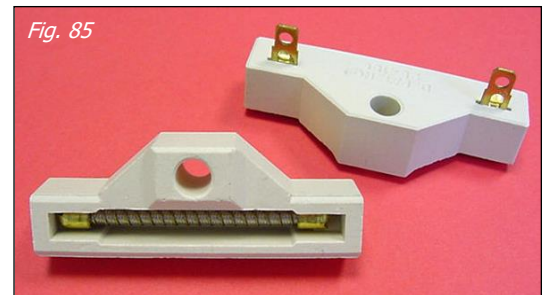
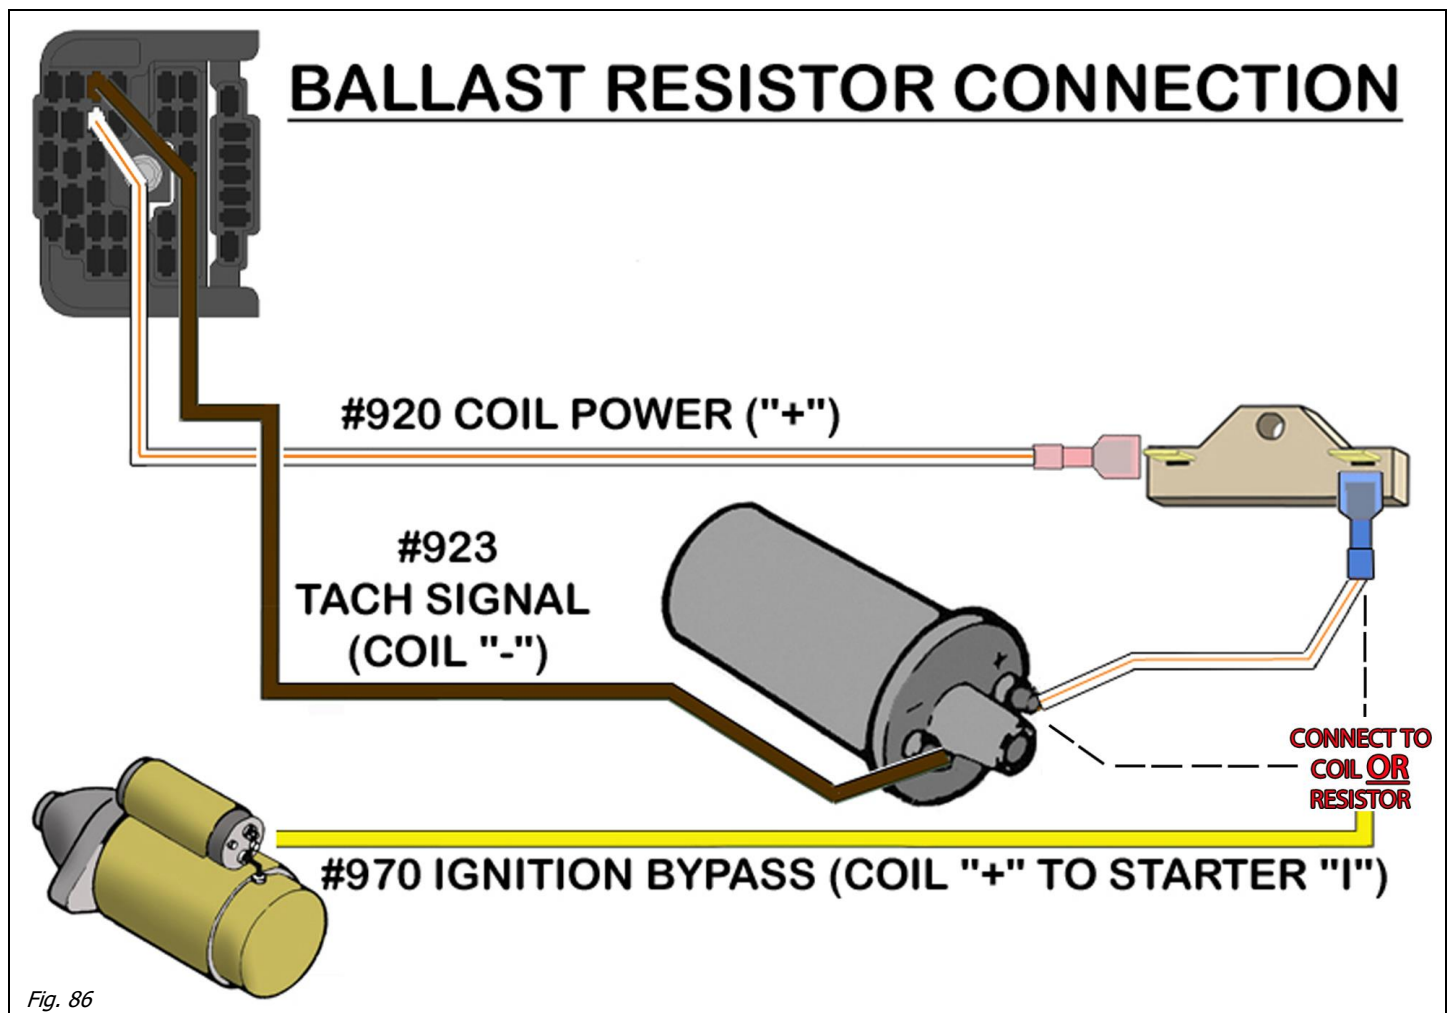

Fig. 85
Fig. 86
If the coil you are using is not internally resisted, a ballast resistor along with the yellow wire mentioned in the next step, must be used. A coil usually has some kind of print on it that states "RESISTOR REQUIRED" or "NO RESISTOR REQUIRED." A ballast resistor, not included due to a lack of usage, resists the current going to the coil (see Fig. 85). **If a coil is not internally resisted and a ballast resistor is not used, the coil overheats within a few minutes to the point that it no longer works.** Your factory harness used a resistance wire to accomplish this. If you need a ballast resistor, which has a universal part number RU-11, contact Painless or your favorite parts supplier (see the Ballast Resistor Connection Diagram on page 48; Fig. 86).
- The cut off piece of **#920** will now connect the other side of the resistor and to the positive (+) side of the coil. Before making any connections, a bypass wire from the parts kit also needs to be installed (see Ballast Resistor Connection Diagram on page 48; Fig 86)
- Connect the yellow **#970** wire to the + side of the Coil or to the output side of the Ballast resistor. The Ballast Resistor Connection Diagram has been created to aid in this connection (see Fig. 86.) If it is connected to the ballast resistor, double this **#970** with the **#920** into one terminal as shown in the schematic.